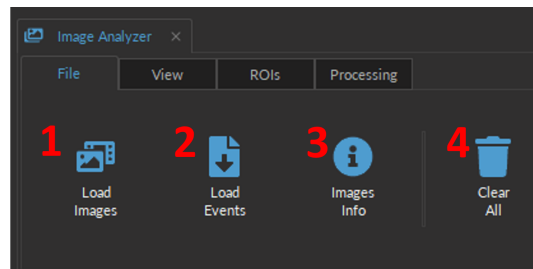

Figure 15.3: File Tab
The **File tab** (Fig. 15.3) is used to load data, obtain information about data, and clear the **Analyzer View**.
1. The **Load Images** button (Fig. 15.3, 1) loads the images. They must be saved in a .doric file format containing images in a square, 16 bits format.
2. The **Load Events** button (Fig. 15.3, 2) displays **Keypress Events** from a .doric file over the signals in **ROIs View**.
3. The **Images Info** (Fig. 15.3, 3) displays a window with information about the images (Width x Height, Bits Count, Timestamp, Sensor ID, LED power, Exposure, and the Gain).
4. The **Clear All** button (Fig. 15.3, 4) closes the **Analyzer View** and the analysis in progress.